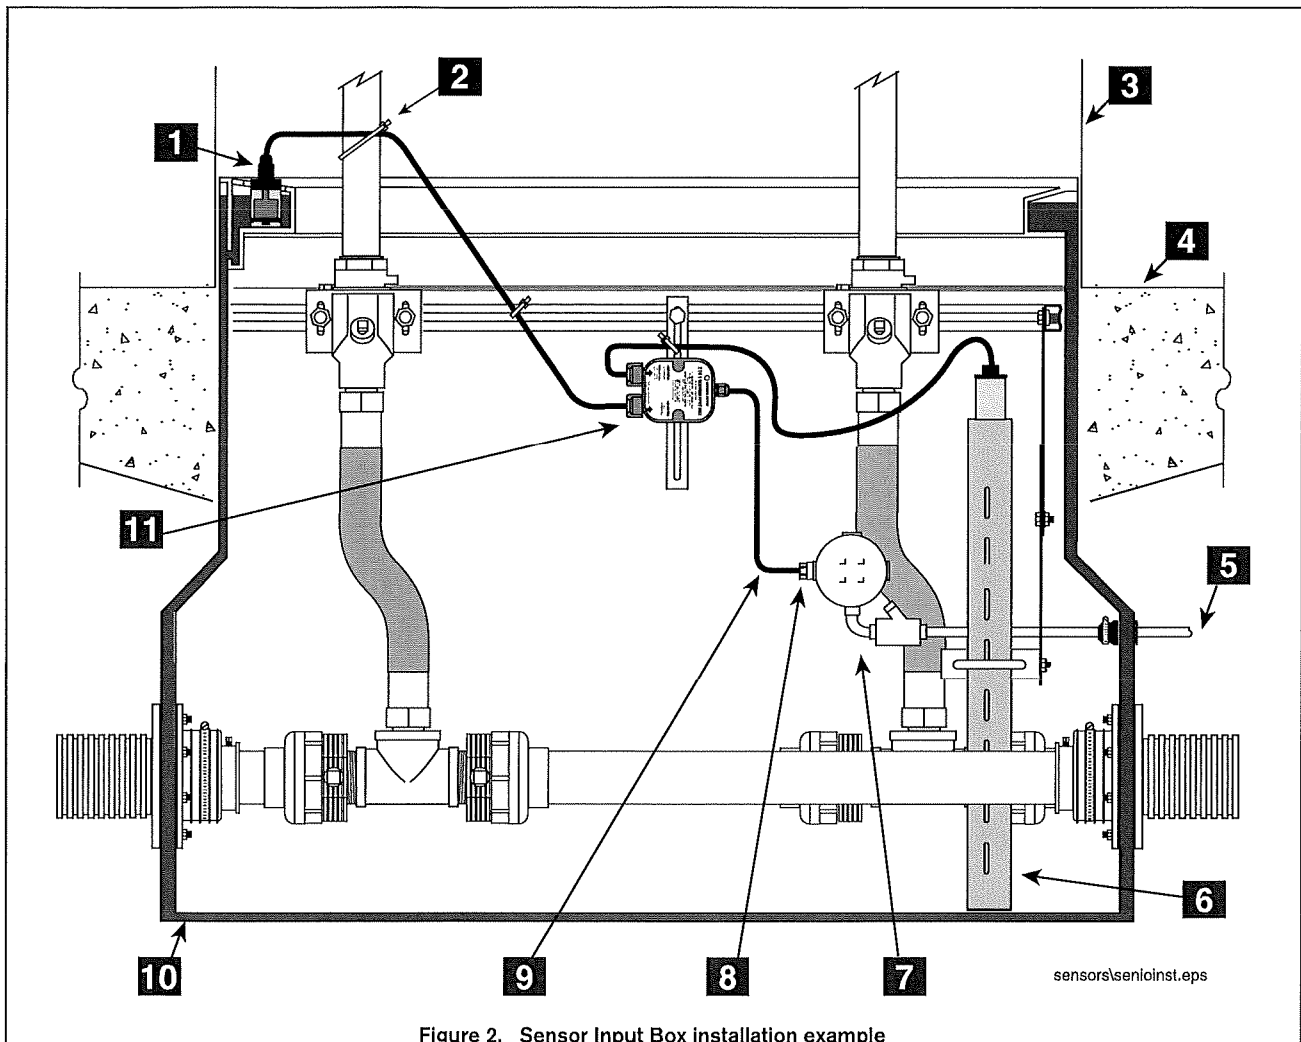

Figure 2. Sensor Input Box installation example
2. Figure 2 shows an example installation of the Sensor Input Box. Attach the unit where practical to a rigid support member using appropriate fittings from the universal sensor mounting kit.
Legend for numbered boxes in Figure 2